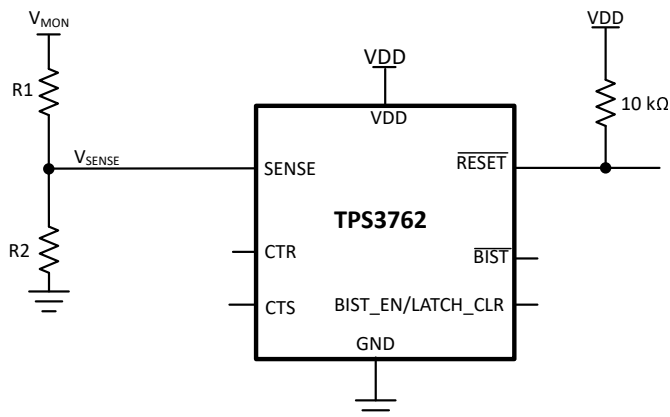

图 8-1. Adjustable Voltage Threshold with External Resistor Dividers
图 8-1 illustrates an example of how to adjust the voltage threshold with external resistor dividers. The resistors can be calculated depending on the desired voltage threshold and device part number. TI recommends using the 0.8 V voltage threshold device when using an adjustable voltage variant. This variant bypasses the internal resistor ladder.
For example, consider a 12 V rail, V_{MON} , being monitored for overvoltage (OV) using of the TPS3762D02OVDDFR variant, as shown in 图 8-1. The monitored OV threshold, denoted as V_{MON+} , is the desired voltage where the device asserts the reset. For this example $V_{MON+} = 35$ V. To assert an overvoltage reset the voltage at the sense pin, V_{SENSE} , needs to be equal to the input threshold positive, V_{ITP} . For this example variant $V_{SENSE} = V_{ITP} = 0.8$ V. Using R_1 and R_2 the correlation between V_{MON+} and V_{SENSE} can be seen in 方程式 8. Assuming $R_2 = 10$ k Ω , and R_1 can be calculated as $R_1 = 427.5$ k Ω .